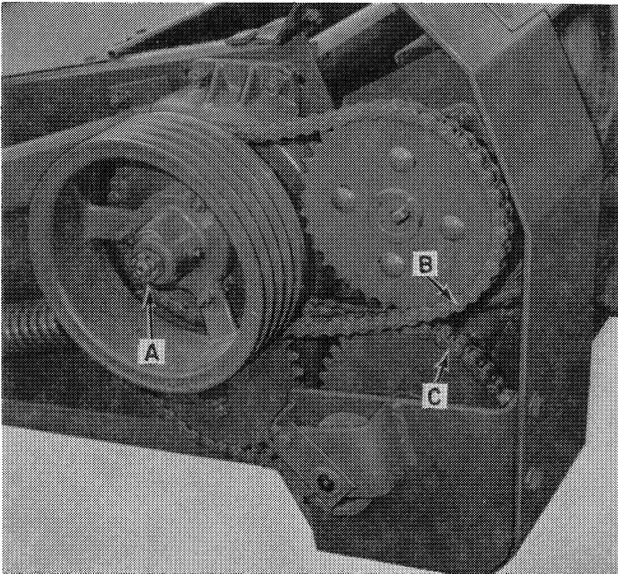

FIGURE 1
Type 1 Gearboxes used as original equipment on Models 910, 912, and 1112 have the sheave retained by a slotted nut and cotter pin in the input shaft. See A, Figure 1.
4. Remove both roll drive chains, B and C, Figure 1.